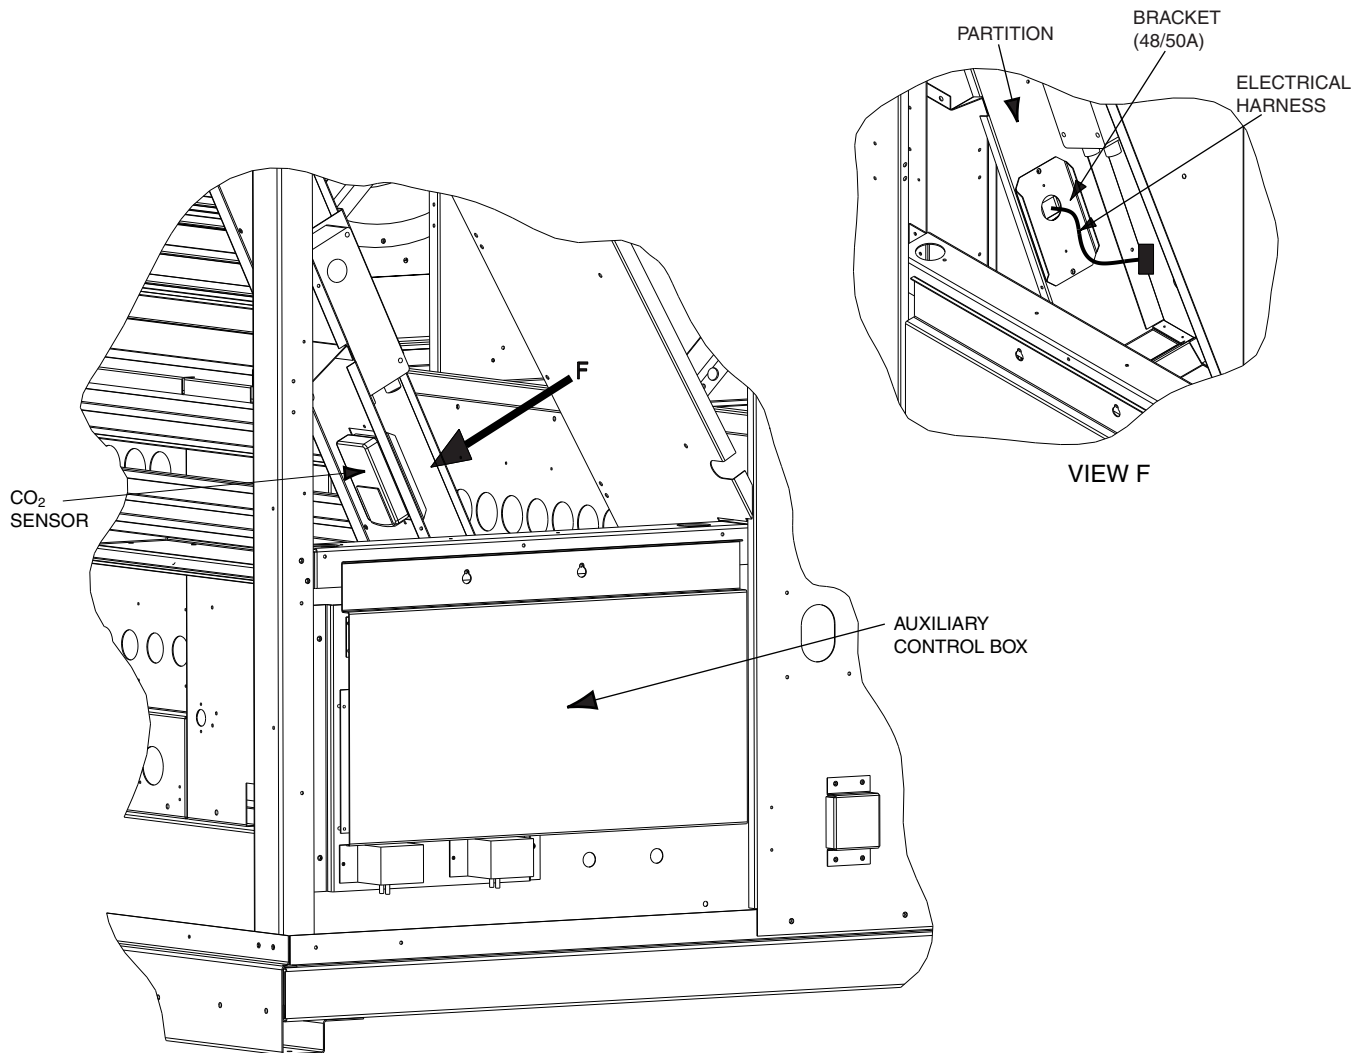

Fig. 2 — 48/50A CO₂ Sensor Mounting Location
48/50A Units — The CO₂ sensor is to be installed in the predrilled holes located above the auxiliary control box (see Fig. 2).
8. Mount the bracket to the partition using 2 sheet metal screws (see view F in Fig. 2).